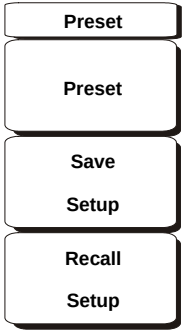

Figure 3-10. Preset Menu Soft Keys
To access the functions under the Preset menu, select the **Shift** key, then the **Preset (1)** key. The Preset menu soft keys are shown in Figure 3-10.